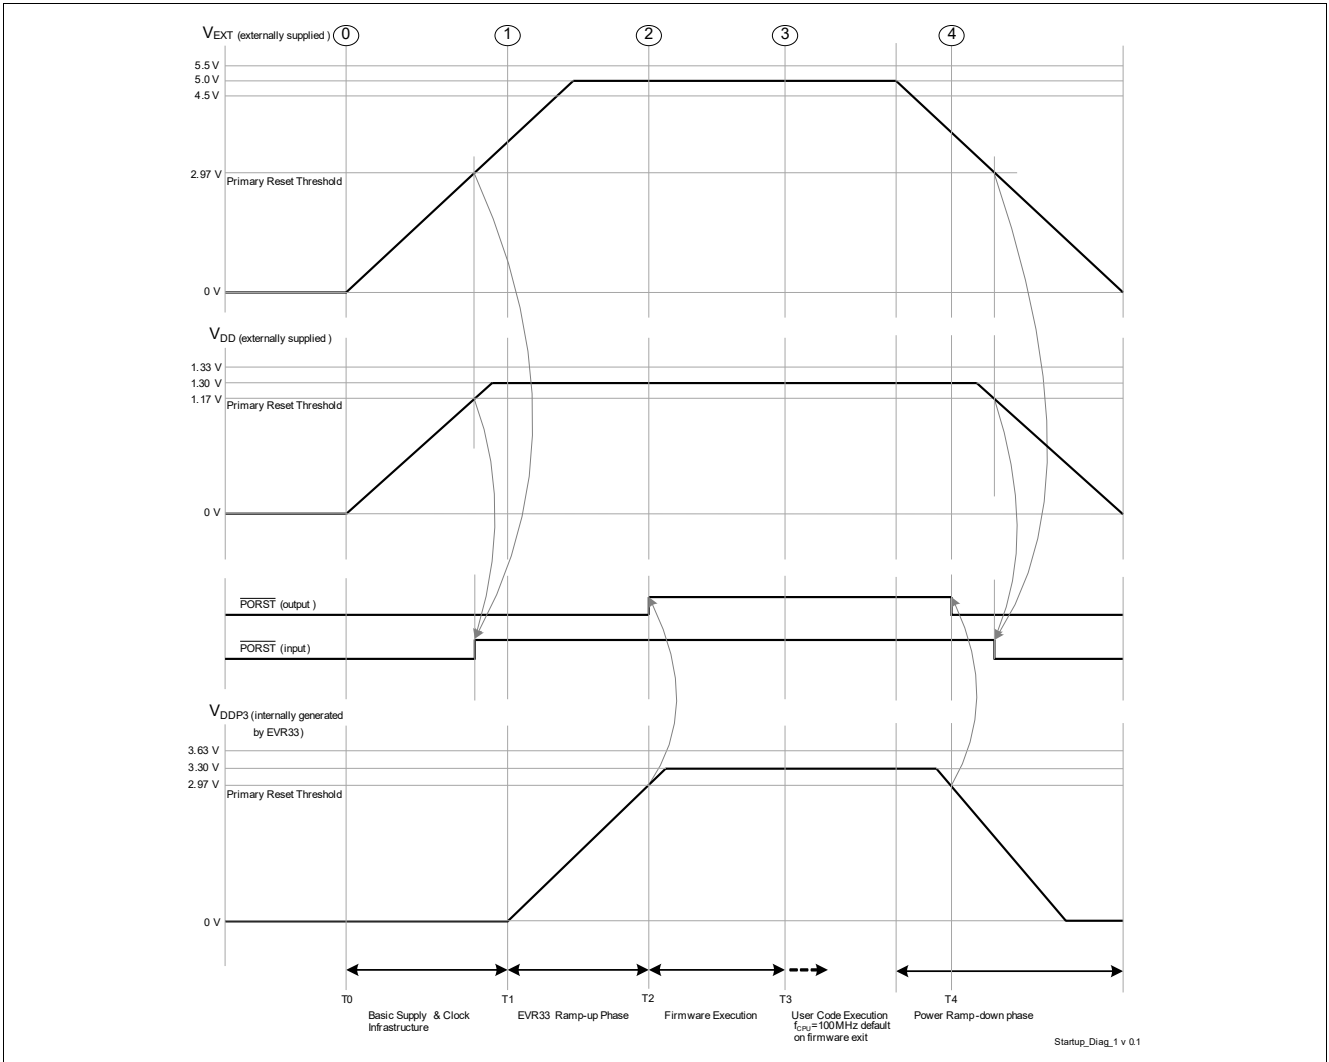

Figure 3-3 External Supply Mode - 5 V and 1.3 V externally supplied
- The power sequence as shown in Figure 3-3 is enumerated below